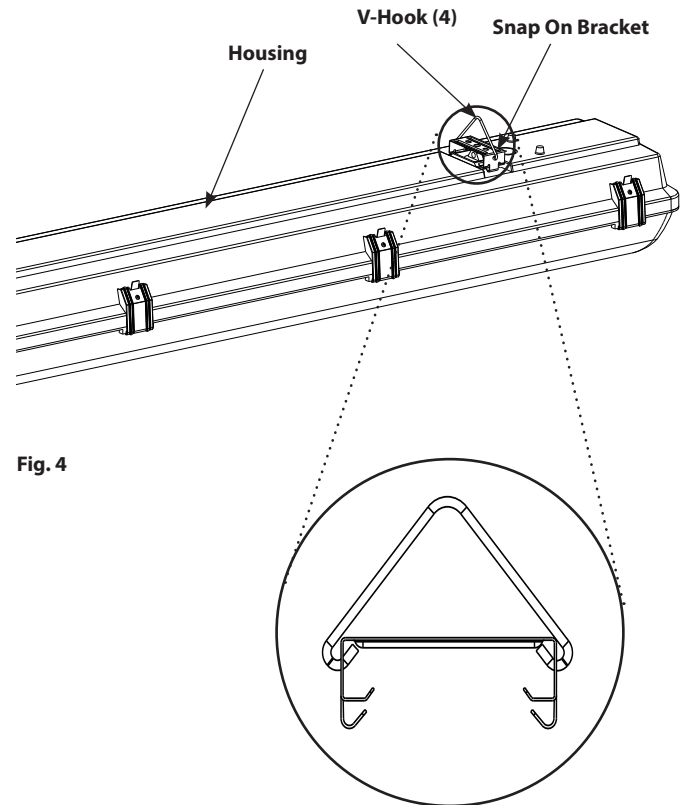

Fig. 4
3. **V Hooks** (2 pc on SEAL 4ft and 3 pc on SEAL 8ft) are provided for chain mounting. Loop **V Hooks** through **Snap On Bracket** at back of **Housing** as in **Fig. 4**.
5. Fixture mounting height and spacing should be determined by application requirements. Use chain suitable to support four (4) times the weight of the fixture.